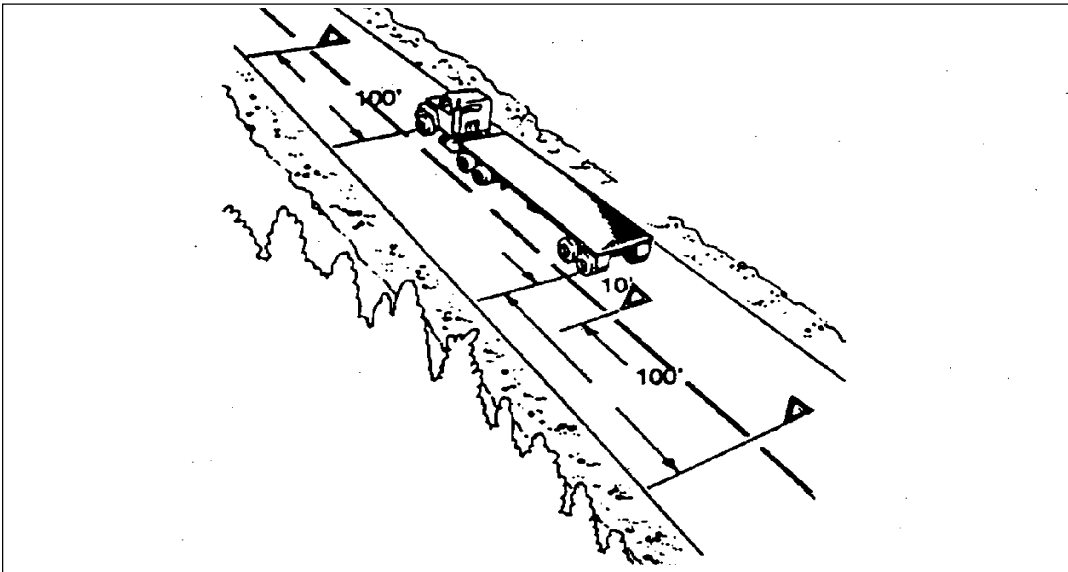

Figure 2-8
- If you stop on a 2-lane road carrying traffic in both directions or on an undivided highway, place warning devices within ten feet of the front or rear corners to mark the location of the vehicle and 100 feet behind and ahead of the vehicle, on the shoulder or in the lane you stopped in. (See Figure 2-8.)